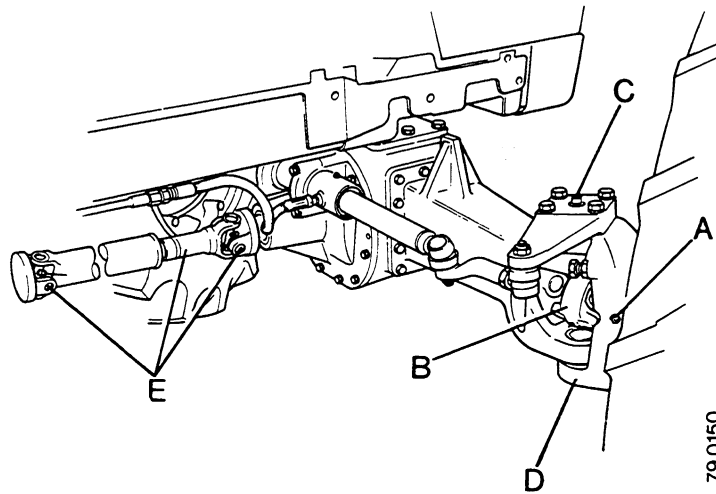

FIGURE 4. GREASE FITTINGS FRONT AXLE 4WD
If conditions are wet or dusty, put grease in the following fittings. See Figure 4.
Lubricate all fittings except A which are done on 500 hour service, see Figure 4 and 60 hour service.
If ground conditions **are not** wet or dusty, every 60 hours lubricate the following fittings. See Figure 4.
2. Put grease in the stub axle fittings at A, Figure 4, until it shows at hub to stub axle joint.